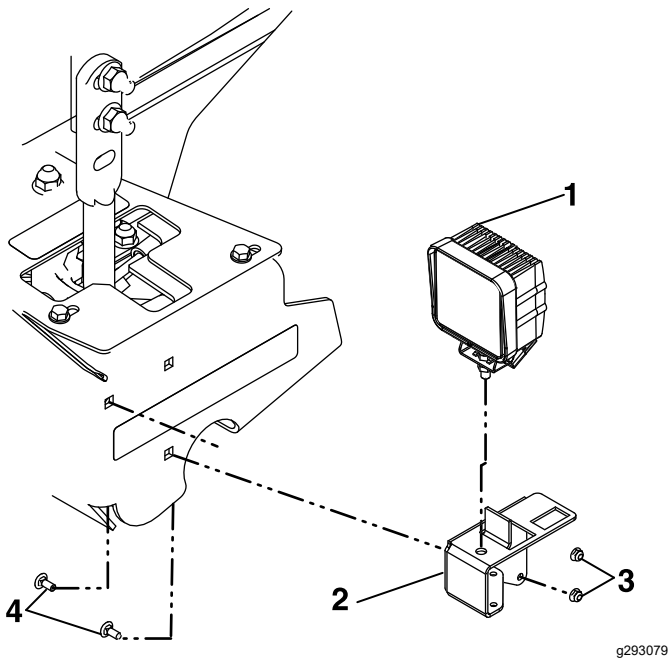

Figure 3
4. Using two 1/4-20 x 5/8 inch carriage bolts and nyloc nuts, install the LH light bracket onto the LH motion control frame bracket as shown in Figure 3.